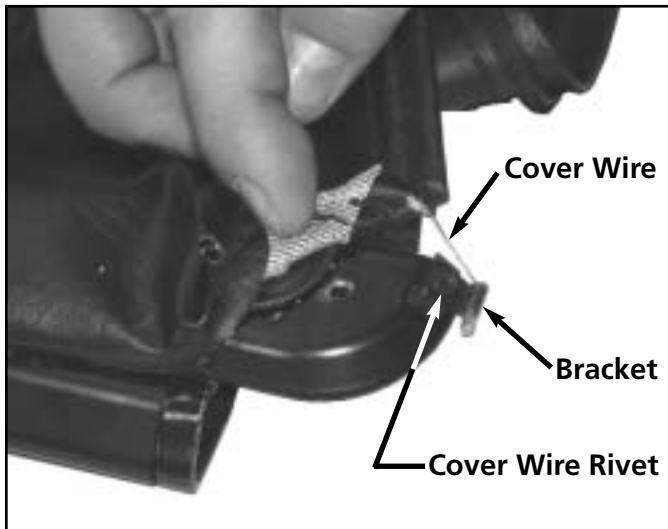

Figure S-86
- 20. Hold the cover wire bracket in place on the corner support assemblies. See figure S-86.
- 21. Insert the small rivet through the cover wire bracket into the corner support assembly and fasten with a rivet gun. See figure S-86.